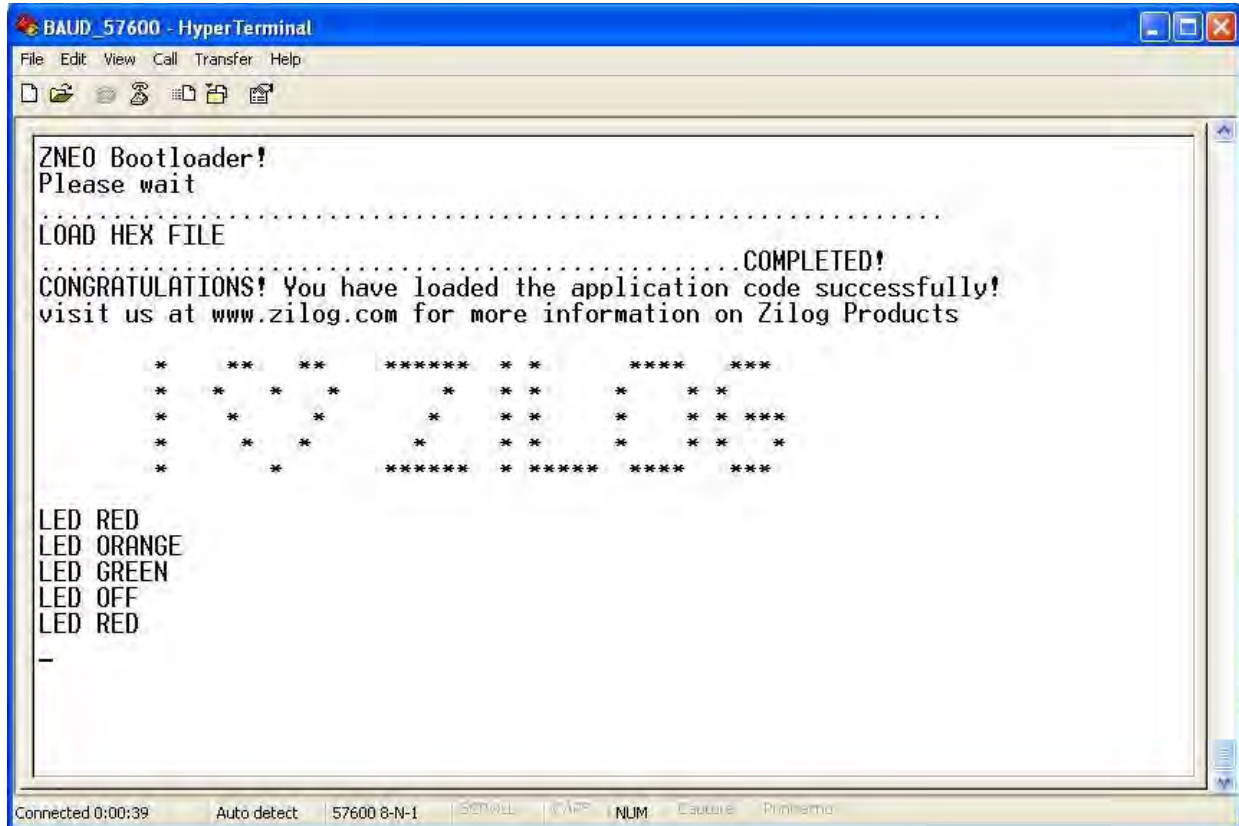

Figure 14. HyperTerminal Displays the Boot Loader Initialization
4. Release the space bar of the PC, then release the reset button to start the user program. HyperTerminal should present a display similar to the result shown in Figure 14.